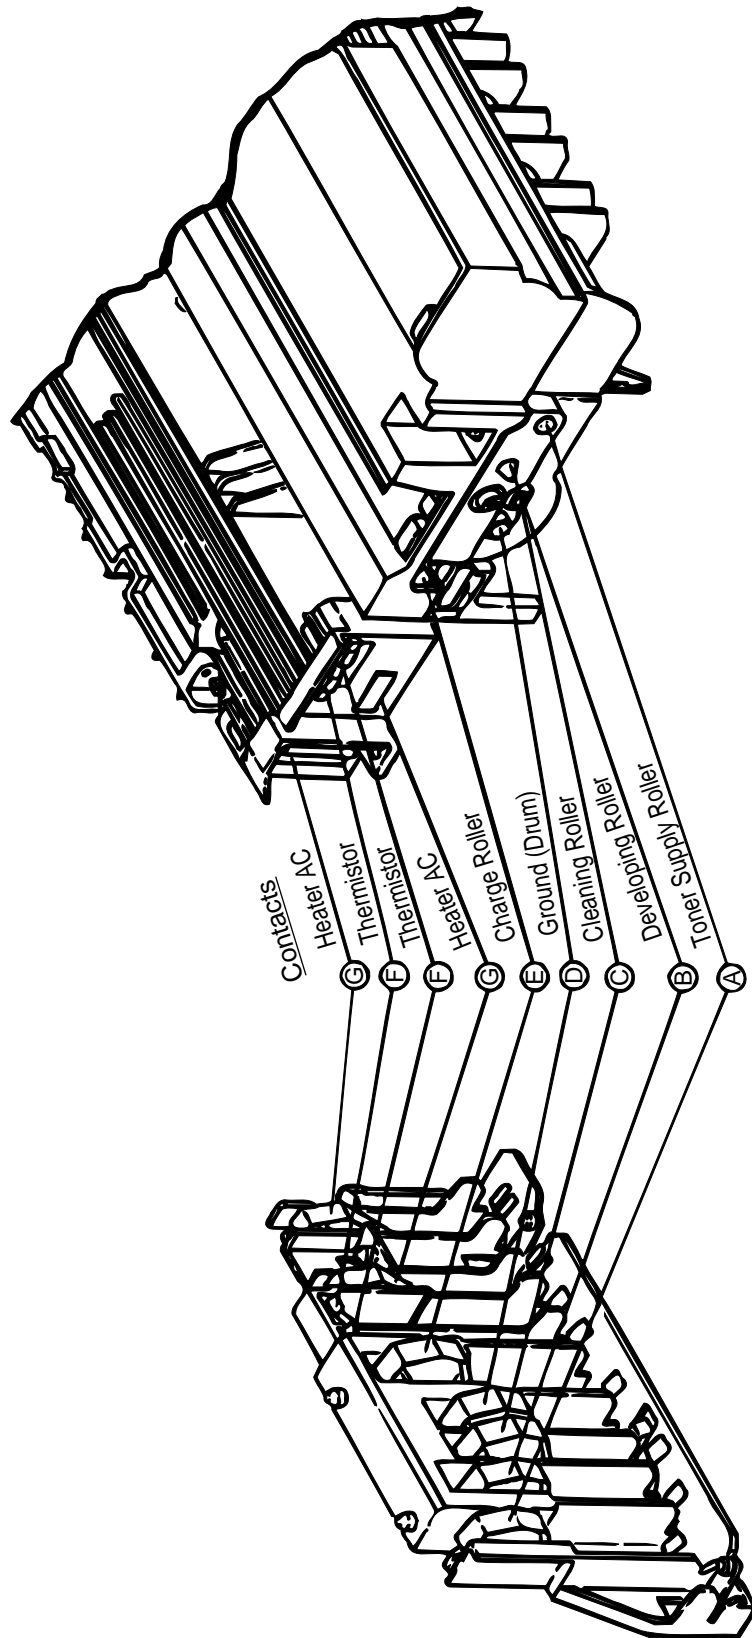

Figure 6-4
- ▼ Yes Check the heat contacts of the fusing unit and the contact assembly for poor contact (see Figure 6-4 contact ㉔).
- ▼ Yes Are the contact of the developing roller and the contact of the toner supply roller of the image drum cartridge in contact with the contact assembly properly (see Figure 6-4 ① and ②)?